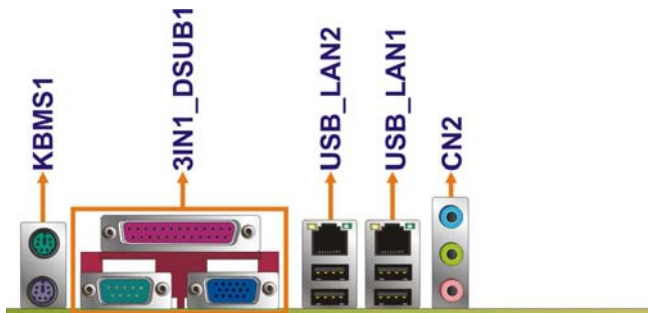

Figure 4-23: 2807730 External Interface Connectors
- CN Location:** See Figure 4-23
CN Location: See Figure 4-23
CN Location: Figure 4-23
CN Location: See Figure 4-23 (labeled 6)